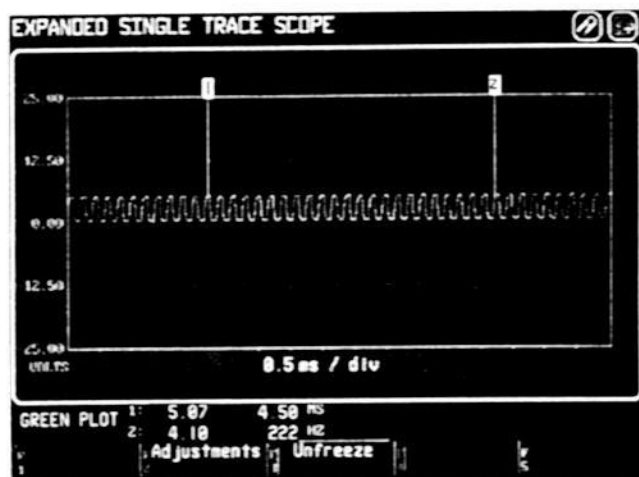

Figure 3-55
- [F4] – to expand the pattern display to take up the entire screen (see Figure 3-55).